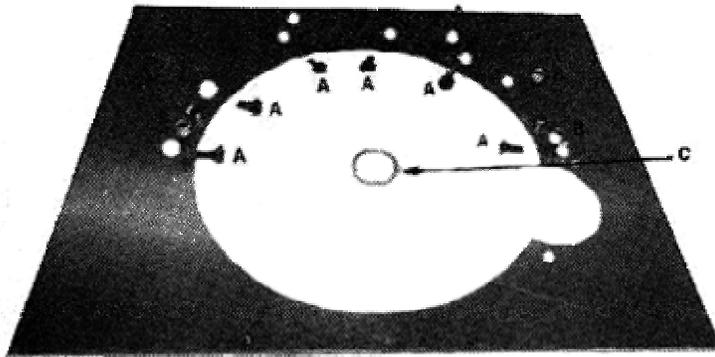

Figure 1
Step 5: Check depth clearance between pads of converter to outside edge of transmission bellhousing (**SEE FIGURE 1.**) and compare to **chart 1.**